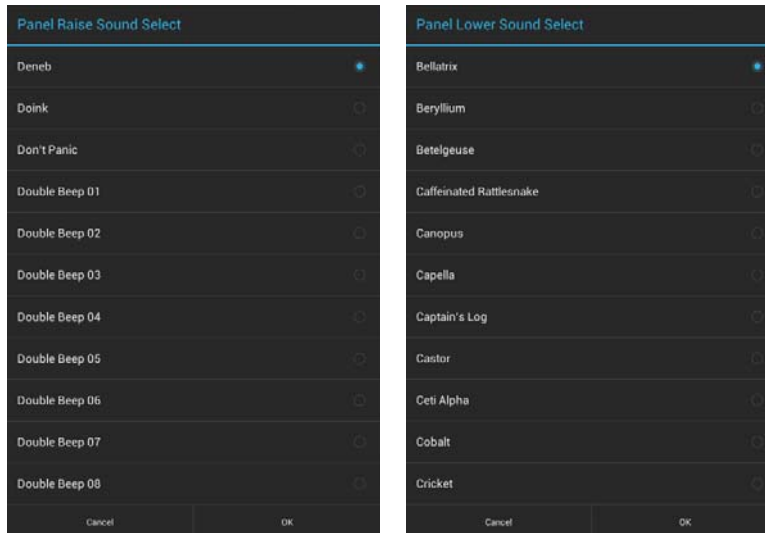

FIG. 19 Panel Raise Sound Select and Panel Lower Sound Select windows
- Select **Panel Raise Sound Select** to select a sound to coincide with the retractable panel being raised via the *Panel Raise Sound Select* window (FIG. 19):
- Select **Panel Lower Sound Select** to select a sound to coincide with the retractable panel being lowered via the *Panel Lower Sound Select* window (FIG. 19):